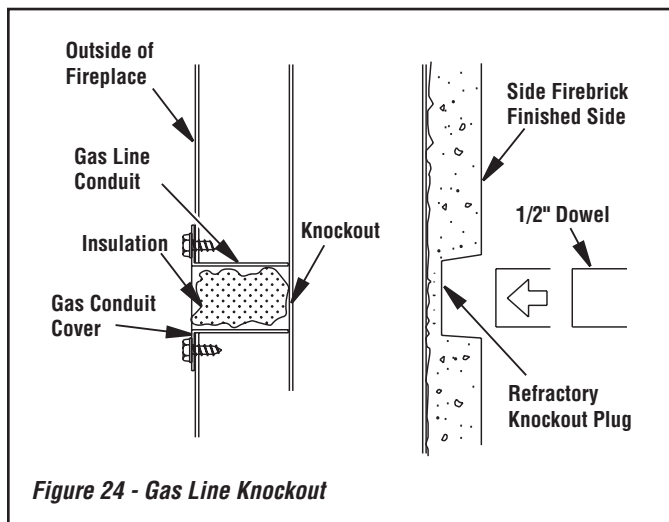

Figure 24 - Gas Line Knockout
1. Remove knockout indentation on refractory or firebrick wall located above the refractory hearth floor. Knockout indentation must be firmly tapped with any solid object such as a 1/2" dowel until it is released. Remove fragmented portions of refractory (see **Figure 24**).